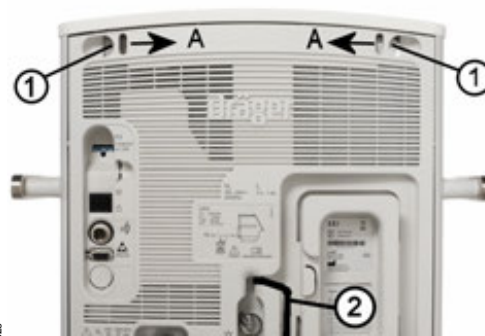
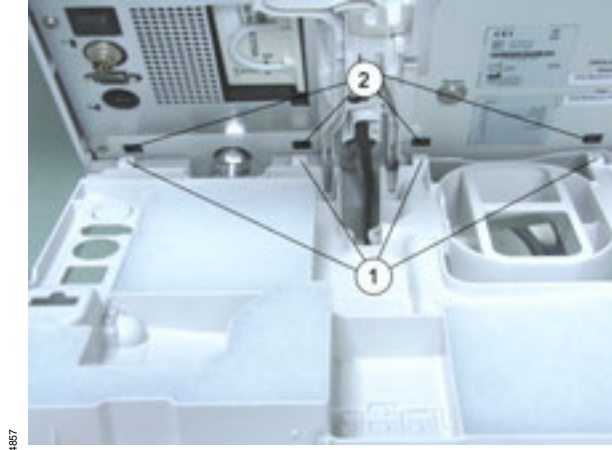

Fig. 32 View of device rear: filter cover
Fig. 33 Detail view of filter cover: tabs and recesses
- 1 Withdraw the power cable (Fig. 32/2) from filter cover guide.
- 2 Reach into the openings in the filter cover on both sides, press the catches concealed behind them (Fig. 32/1) simultaneously towards **A** slightly, move the filter cover back slightly and take the filter cover out of the rear panel.
- 1 Slot the tabs (Fig. 33/1) of the filter cover into the recesses (Fig. 33/2) in the rear panel, swivel the filter cover upwards and press the catches (Fig. 32/1) of the filter cover into the rear panel until they lock in place.
- 2 Lay the power cable (Fig. 32/2) around the filter cover guide, as shown in the illustration.